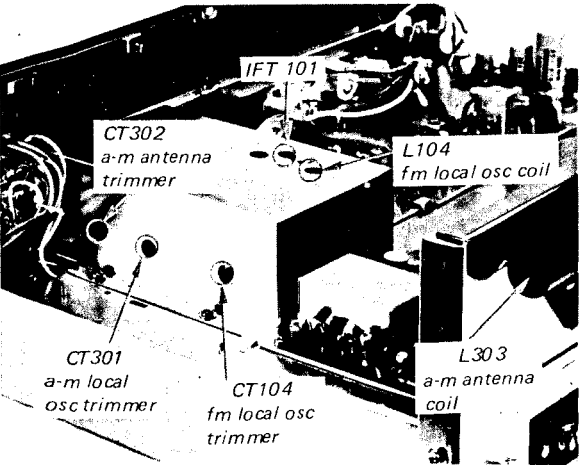

Fig. 3-5 Parts location
3. Turn the core of transformer IFT101 (See Fig. 3-5) with the alignment tool to obtain maximum output.
2. Check the dial scale for a calibration accuracy of ± 200 kHz from the carrier frequency of the station. If the dial-accuracy deviation exceeds this limit, turn local-oscillator coil L104 slightly as shown in Fig. 3-5 until optimum dial calibration is obtained.
3. Tune the receiver to the highest-frequency station in your locality. If the dial-calibration error is excessive, adjust local-oscillator trimmer CT104 to obtain maximum calibration accuracy. See Fig. 3-5.